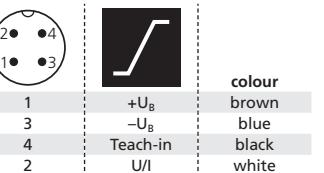

Fig. 1: Pin assignment with view onto sensor plug and colour coding of the microsonic connection cable
- Connect a connection cable to the M12 device plug, see Fig. 1.